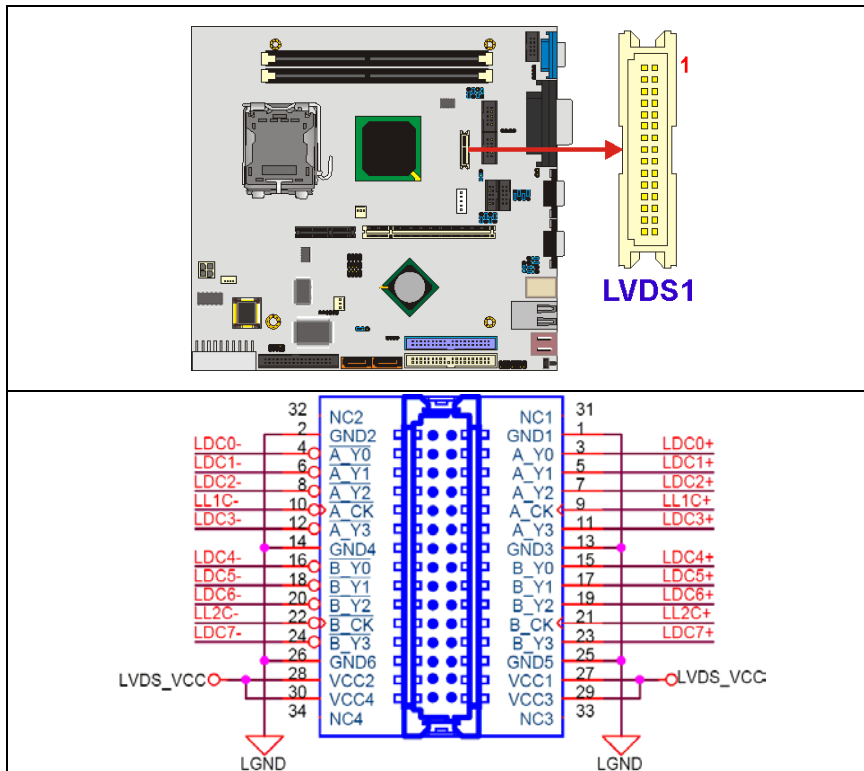

Figure 3-15: LVDS Connector Location
- CN Location:** See Figure 3-15